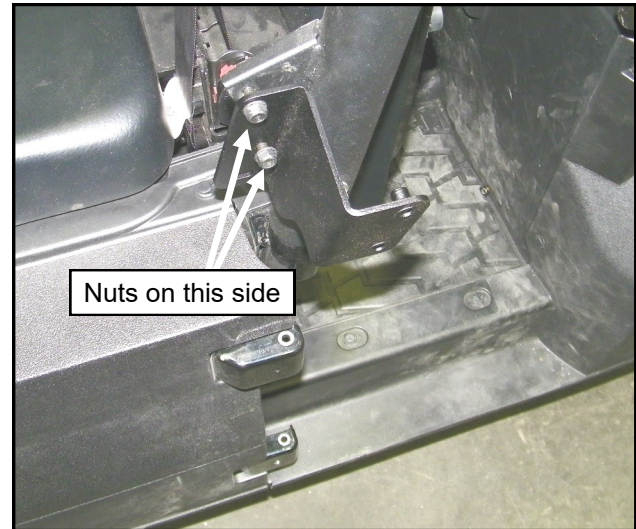

Fig. 5.1 B-pillar brackets
5.1 Per figure 5.1, attach the left B-pillar bracket to the front factory latch mounts on the ROPS with (2) 1/4-20 bolts and nuts, with the nuts toward the outside. Leave bolts loose. Repeat for the right side.